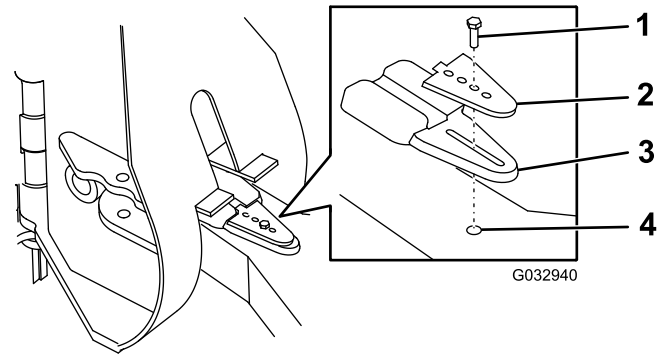

Figure 35
- Adjust the bumper-stop plate (Figure 35).
- Secure the plate to the bumper stop and push frame using the previously removed bolt (Figure 35). Torque the bolt to 31 N·m (23 ft-lb).